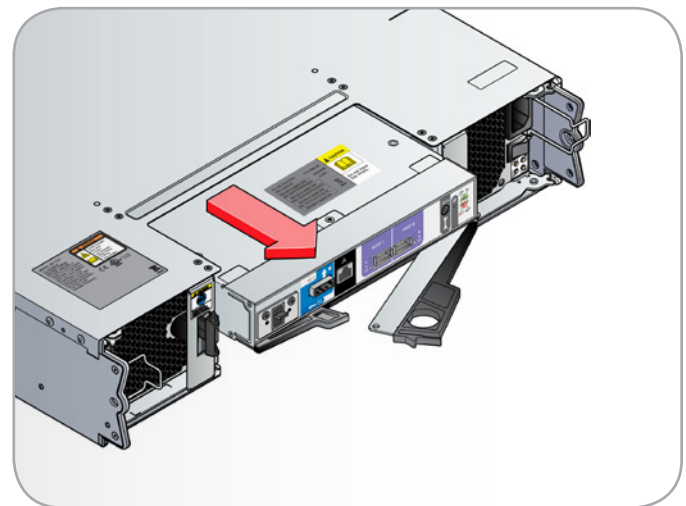

Fig. 75 - Removing the RAID Controller Module
3. Using the latch as a handle, withdraw the RAID Controller module (*Fig. 75*).